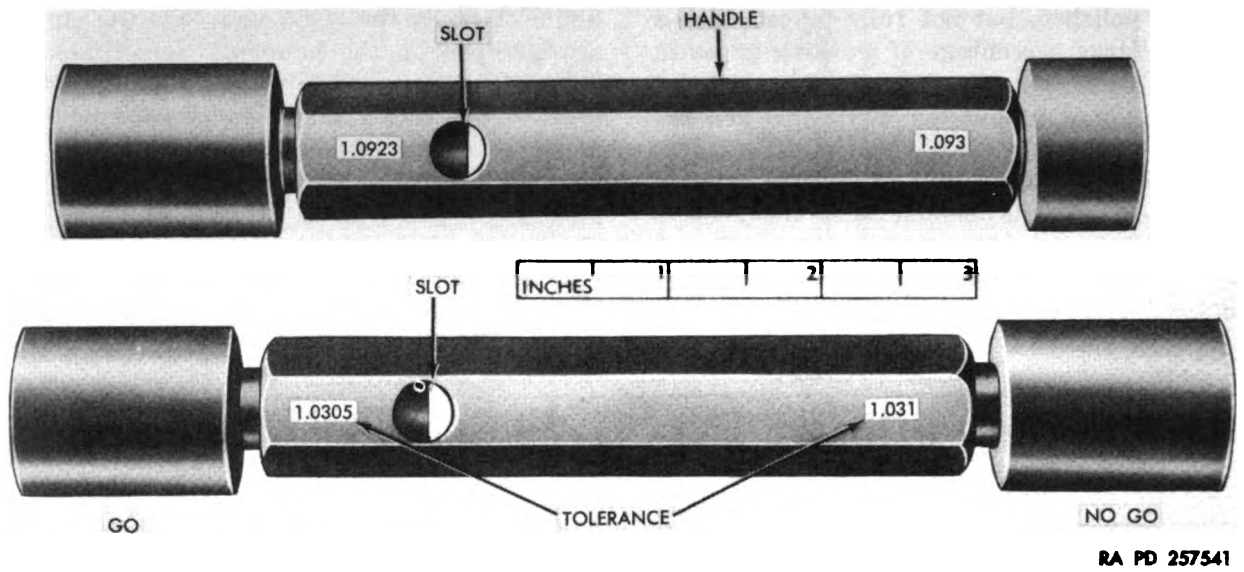

Figure 71. Taper lock plug gages.
a. Taper Lock Design. The taper lock design plug gages (fig. 71) usually range from 0.059 to 1.510 inches in diameter. This type gage has a tapered shank that fits snugly into the handle. A hole or slot is provided for the insertion of a drift pin for use in removing one gaging member. The two gaging members are known as the "GO" and "NO GO" plugs. The "GO" plug measures the lower limit of the hole and the "NO GO" checks the upper